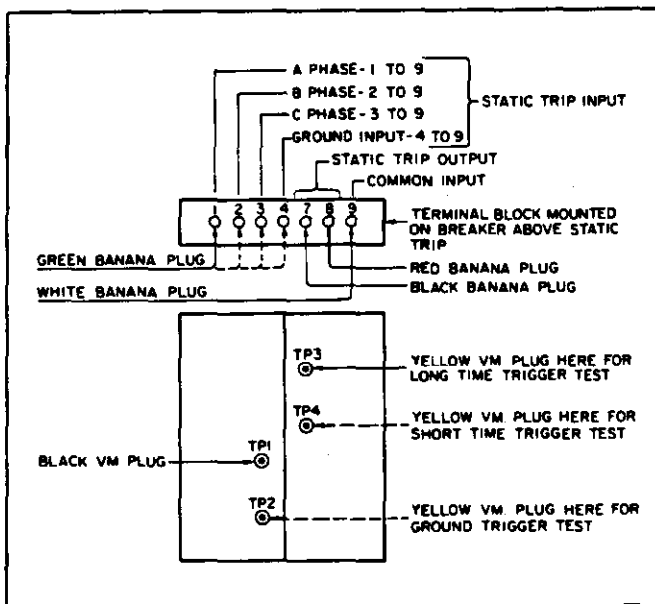

Figure 5. - Test Connections for Static Trip II
FIGURE 5 shows how to connect the test set leads to the trip device. The red and black banana plugs may be left disconnected for pickup tests to avoid trigger instability. However they should be plugged into terminals 8 and 7 as shown for all other tests.
1. Connect the red and black plugs to terminals 8 and 7 per FIGURE 5, the green plug to 1, and the white plug to 9. The voltmeter plugs are not needed.